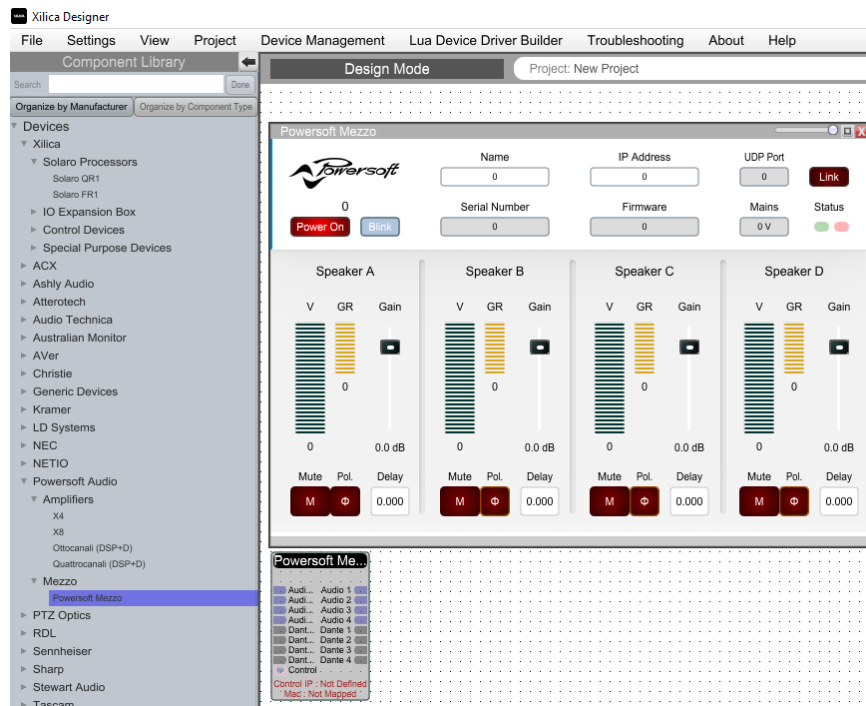

Figure 2 – Screenshot of Xilica Designer's Component Library and the Mezzo Module.
3. Once the project opens in the Component Library on the left the user will find Powersoft Mezzo (Figure 2).